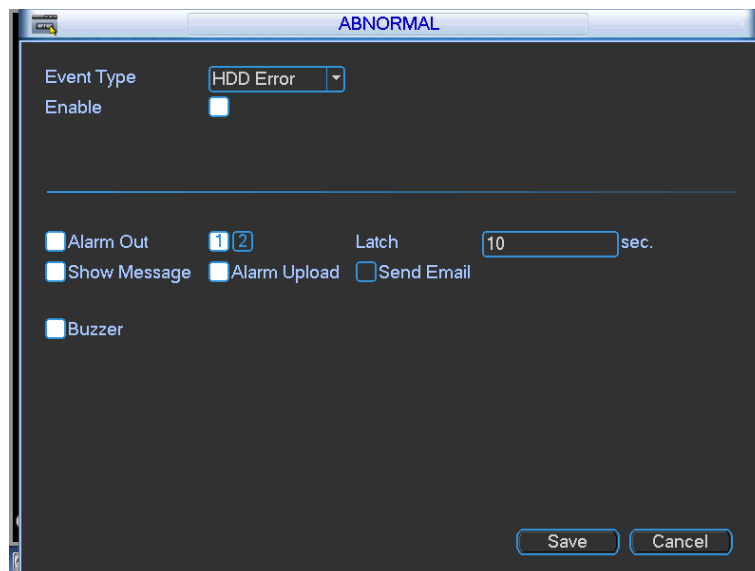

Figure 4-74
- Alarm set: Click alarm set button, the interface is shown as below. See Figure 4-74. (This interface is just like the abnormality setup). Please refer to chapter 4.8.6 for detailed information.